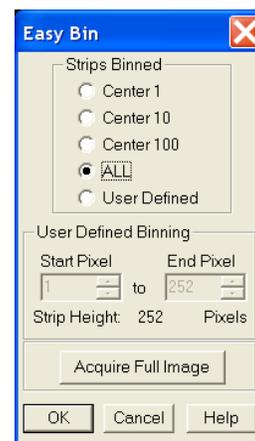

Figure 128. Easy Bin dialog
A Region of Interest (ROI) may be the entire CCD array or it may be a rectangular subregion of the array. For data acquisition, the definition of such a region is done either from the **Easy Bin** dialog (Figure 128, page 144) accessed from the **Acquisition** menu or from the **Experiment Setup|ROI Setup** tab (Figure 129, page 145), accessible after selecting **Experiment Setup** from the **Acquisition** menu. Easy Bin is a simple way of a defining a single full chip width ROI. ROI Setup allows you to create multiple ROIs with greater flexibility in ROI location and width.
2. On the **Easy Bin** dialog (Figure 128), click on the appropriate radio button: